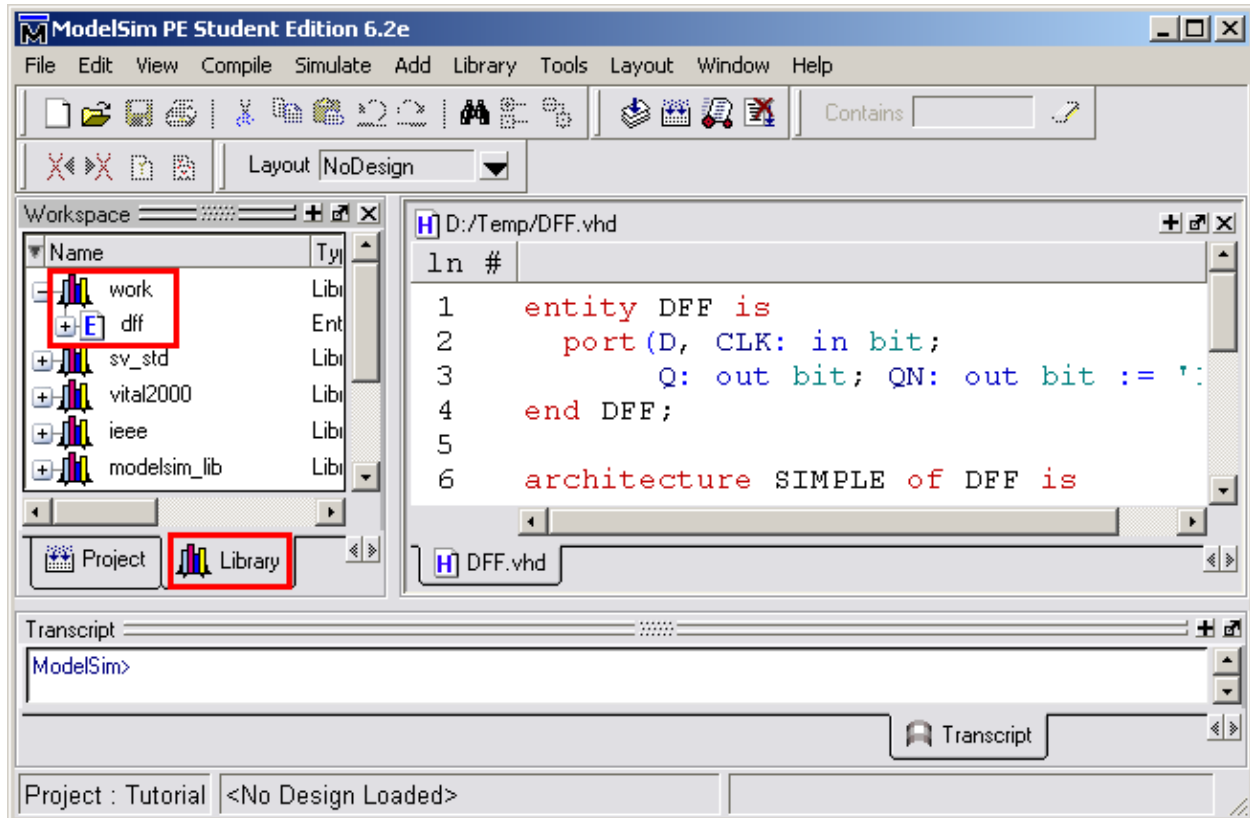

Figure 9: Library Tab
1. Click on the “Library” tab at the bottom of the workspace window and then click on the (+) sign next to the work library. You should see the entity name of the code that we have just compiled, “dff” (See Figure 9).